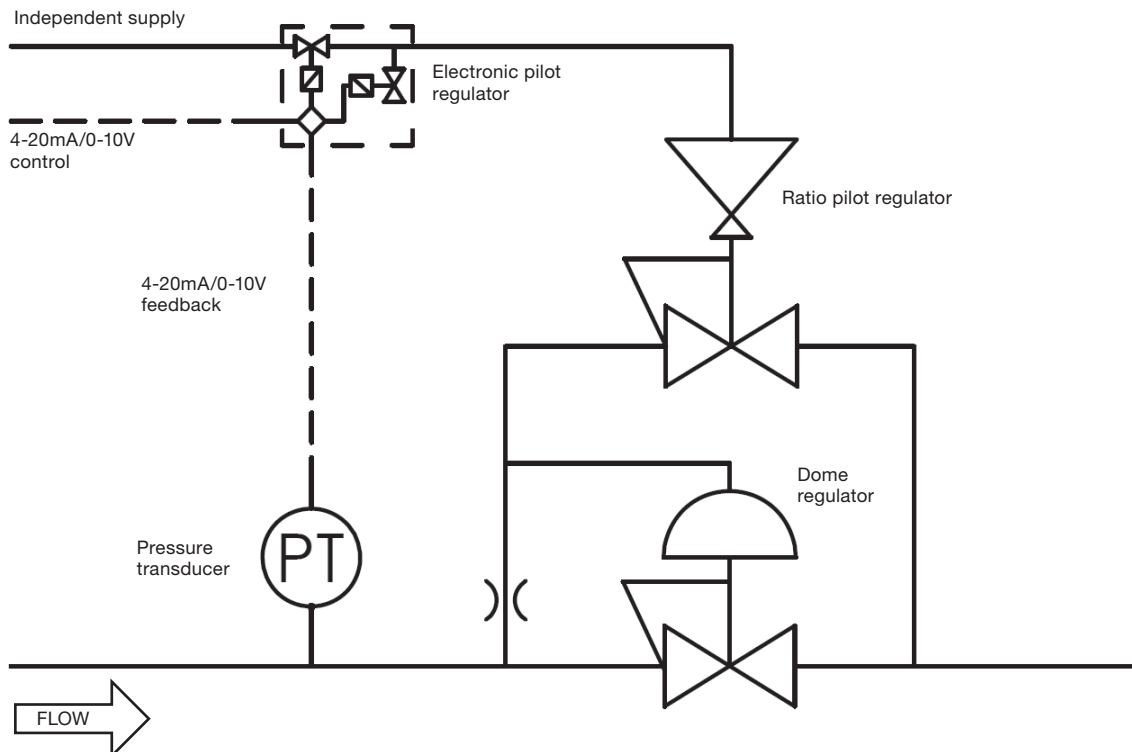

Figure 6
- **Ratio control.** In this setup a ratio pilot regulator, fed from the system pressure, is used to control the dome pressure. The ratio pilot can be controlled by an electronic regulator and pressure transducer combination (Figure 6) or by an external dome feed. The ratio pilot set pressure is proportionally larger than its sensing pressure. This enables the main regulator to achieve full set pressure while being controlled from a low pressure supply. This setup is not suitable for liquid applications.